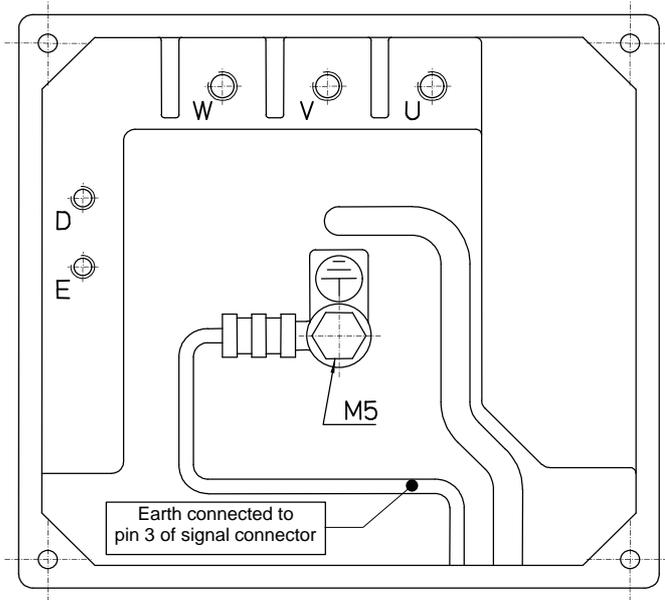
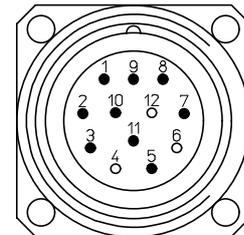

Fig. 3-8a: Connection box (only for 8C4 e 8C5)
Fig. 3-8b: Fixed on the connection box signal connector (only for 8C4 e 8C5)
b) connection box for connections to the servomotor and the possible brake and one connector for connections to the resolver; Fig. 2-2b in Chapter 2 shows the overall dimension drawings; Fig. 3-8a and Fig. 3-8b show the pin numbers; this version is available only for 8C4 and 8C5.